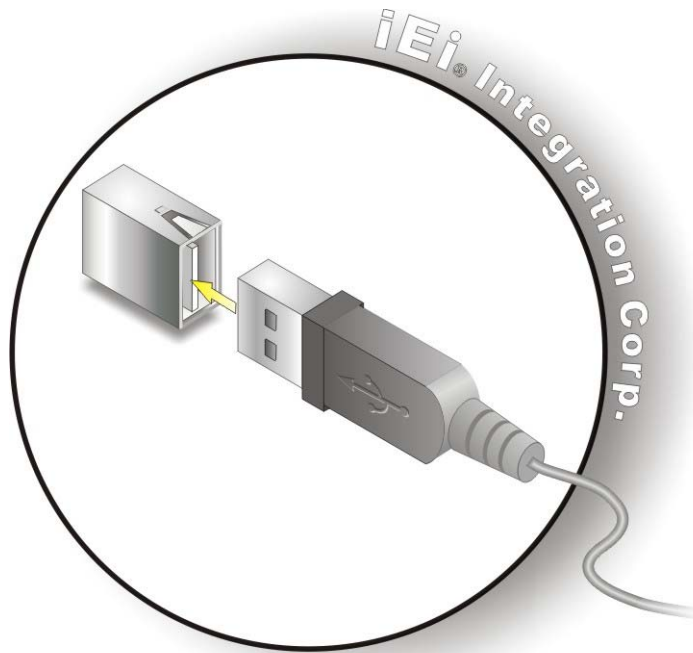

Figure 4-17: USB Device Connection
Step 2: Align the connectors. Align the USB device connector with the connector on the WSB-H610. See **Figure 4-17**.